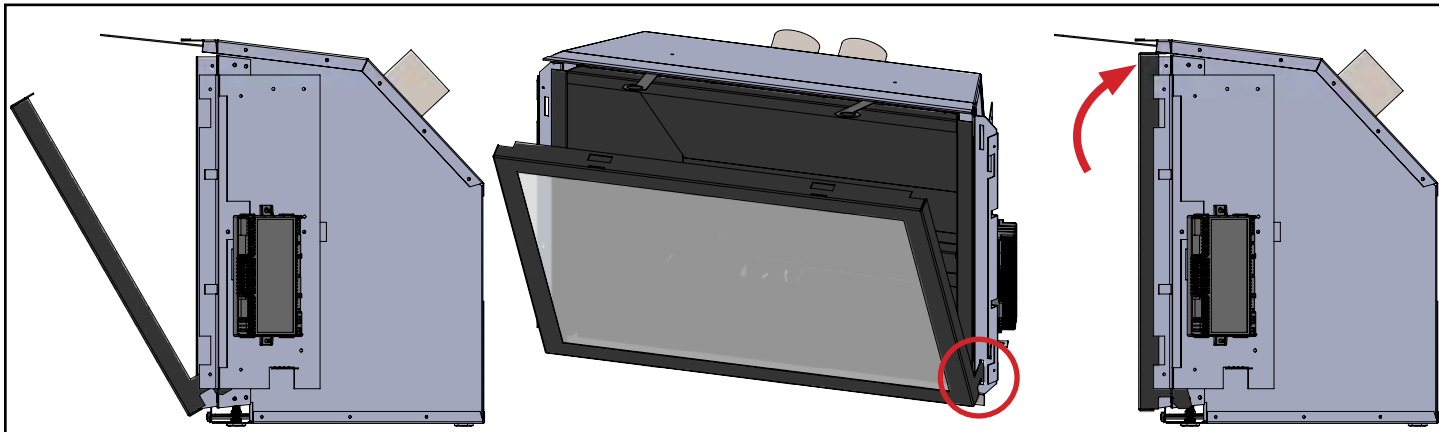

Figure 15.1.01:
1. Hook the door frame in the lower left and right corner of the fireplace opening and rotate the top of the door inward (see **Figure 15.1.01**).